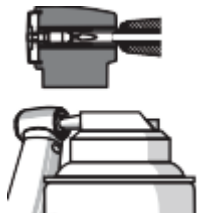

Fig. 4
Chuck Maintenance (Fig. 4)
4. Insert spray adapter into chuck and dispense spray for 1 - 2 seconds (Fig. 4).